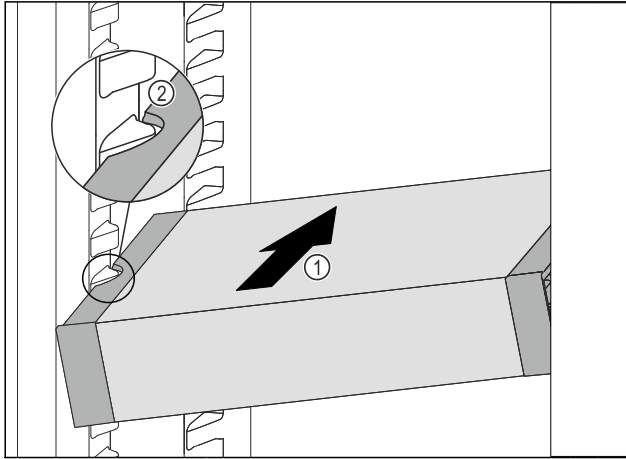

Fig. 175
- ▶ Insert the VarioSafe into the fridge section at an angle Fig. 175 (1) until the recesses in the side Fig. 175 (2) of the VarioSafe are at the level of the support rib in the fridge section.